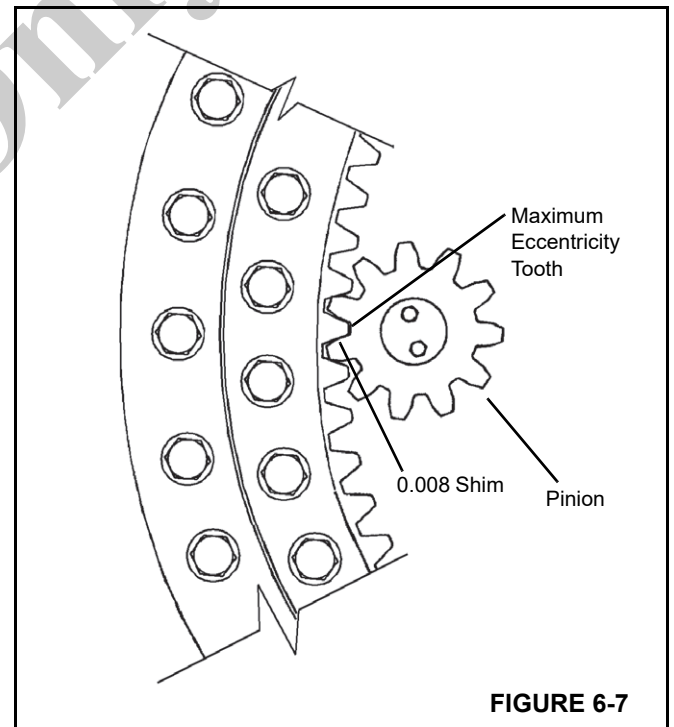

FIGURE 6-7
6. Install the swing drive pinion so that the high point (maximum eccentricity) is aligned with the turret bearing high point. Check the backlash with a (0.008 in) 0.203 mm thick shim (Figure 6-7). If the pinion must be moved to achieve proper backlash, contact your local National Crane distributor.